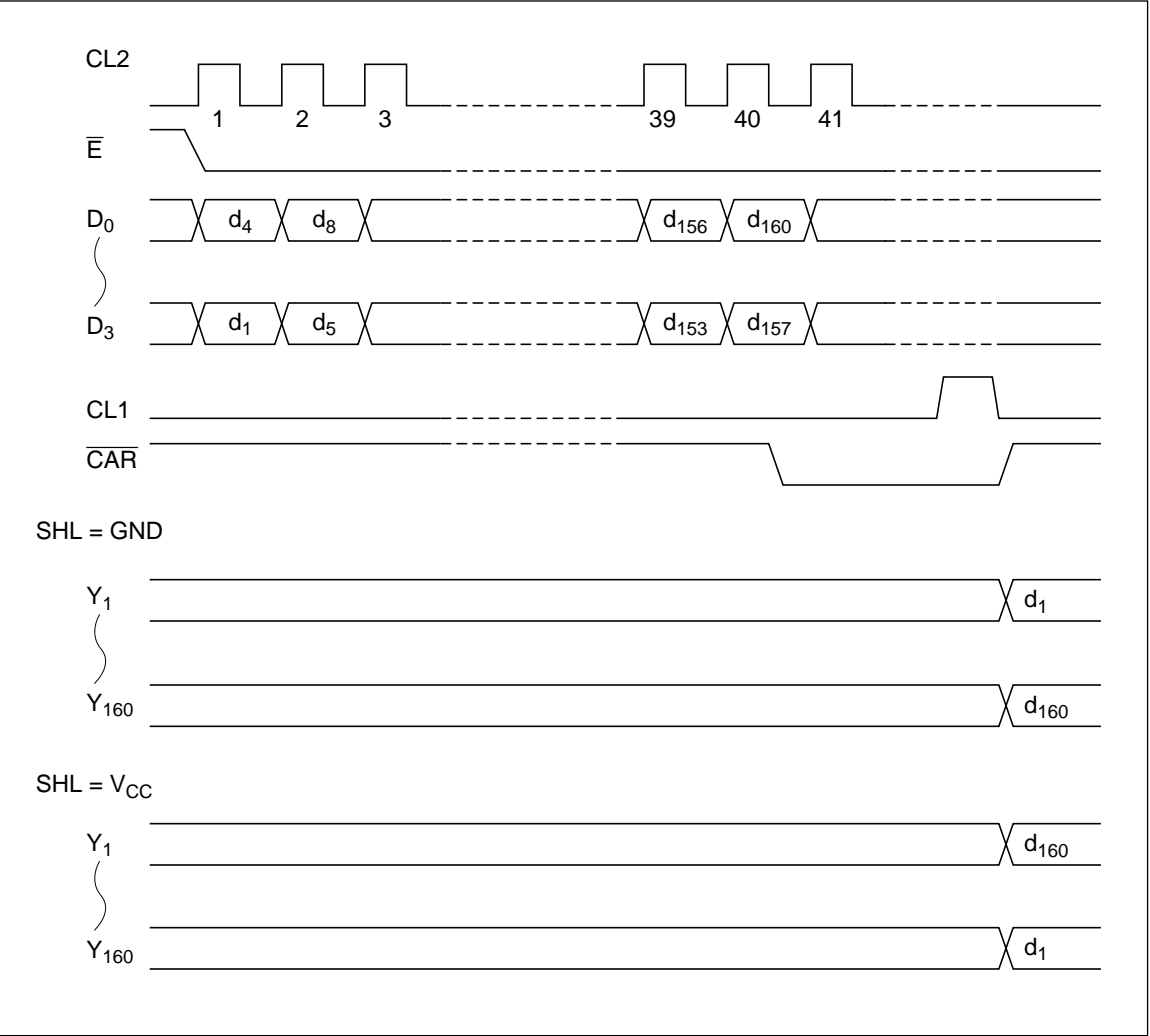

Figure 5 Column Driver Timing Chart (2)
4-bit display data (D_0 – D_3) is latched at the falling edge of CL2. Other operations are performed in the same way as described in “Column Driving (1)”. See figure 5.